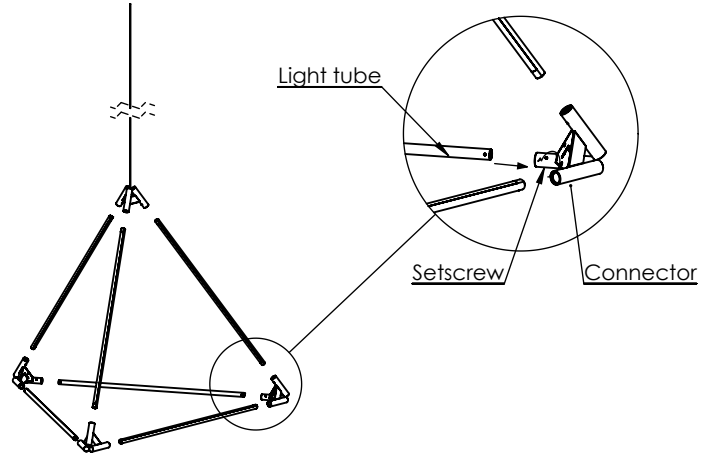

FIGURE 1
NOTE: Figure 1 shows TETAHEDRON as an example. Please install the correct number of light tubes according to your fixture's configuration. The instructions below are same for all SOLIDS.
2. Insert Light tubes into the connectors as shown in FIGURE 1.